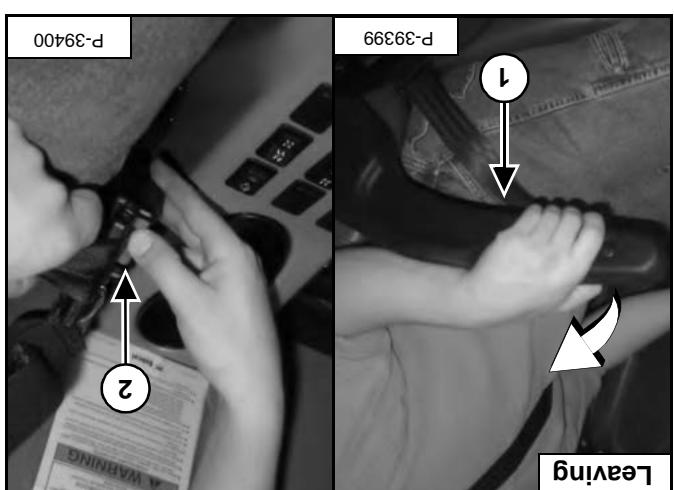

Figure OI-83
Press the red release button (item 2) [Figure OI-83] to disconnect the seat belt.
Raise the operator arm rest (item 1) [Figure OI-83] to deactivate lift, tilt, auxiliary and drive functions.